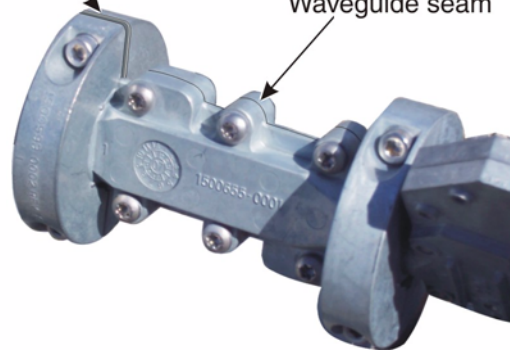

Figure 25: Aligning the collar on the waveguide
- 5. Rotate the collar until it seats into the notch on the feed horn. You *must* locate the notch before fully assembling the collar. Failure to do so will result in damage to the polarizer waveguide. When properly aligned, the two halves of the collar will line up with the seam on the polarizer waveguide as shown in Figure 25.